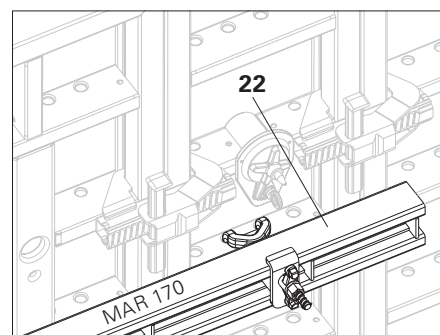

Fig. A4.07
With T-junctions on the straight wall, install Compensation Waler MAR 170 (22) centrally to the outgoing wall. Attach the double hook of the compensation waler to the middle holes. (Fig. A4.07) 90° T-junctions, see Section D3.